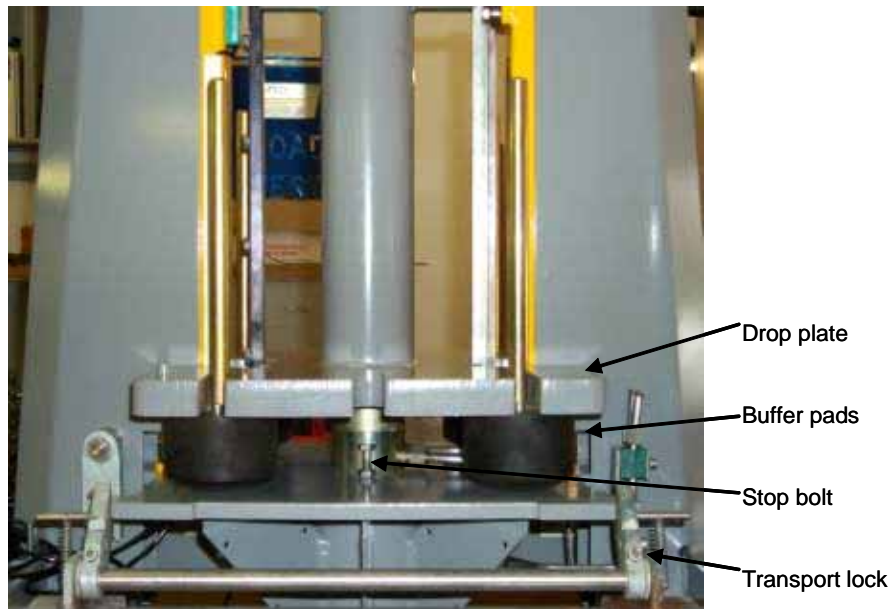

Figure 37. Buffer pads and drop plate in position.
4. Check buffer pads for proper seating and any cracks or splitting (figure 37).